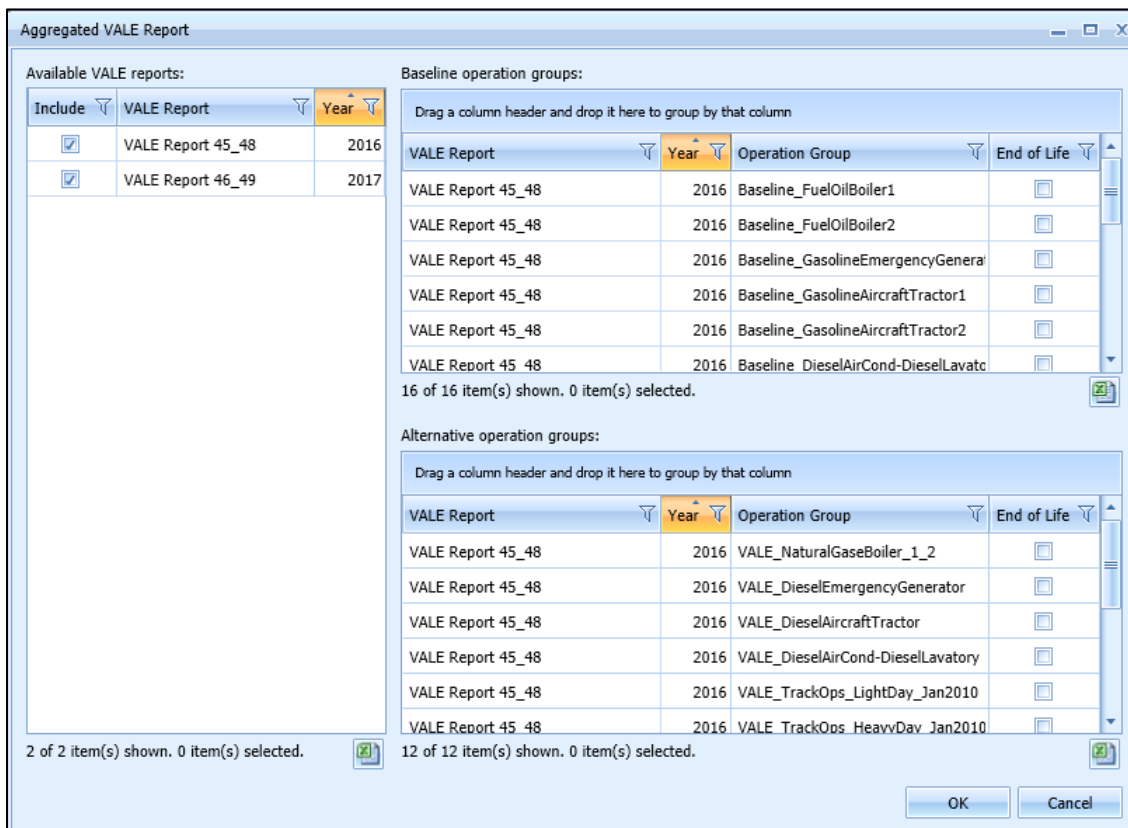

Figure 5-53 Sample Aggregated VALE Report Dialog
2. From the *View Reports* ribbon group, click *Aggregated VALE Report* to open the *Aggregated VALE Report* dialog will (Figure 5-53).